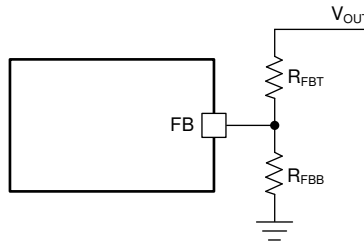

**Figure 7-1. SW Node and Inductor Current Waveforms in Continuous Conduction Mode (CCM)**
The following operating description of the LMR514x5 refers to Functional Block Diagram and to the waveforms in Figure 7-1. The LMR514x5 is a step-down synchronous buck converter with integrated high-side (HS) and low-side (LS) switches (synchronous rectifier). The LMR514x5 supplies a regulated output voltage by turning on the high-side and low-side NMOS switches with controlled duty cycle. During high-side switch ON time, the SW pin voltage swings up to approximately  $V_{IN}$ , and the inductor current,  $i_L$ , increases with linear slope  $(V_{IN} - V_{OUT}) / L$ . When the high-side switch is turned off by the control logic, the low-side switch is turned on after an anti-shoot-through dead time. Inductor current discharges through the low-side switch with a slope of  $-V_{OUT} / L$ . The control parameter of a buck converter is defined as Duty Cycle  $D = t_{ON} / T_{SW}$ , where  $t_{ON}$  is the high-side switch ON time and  $T_{SW}$  is the switching period. The converter control loop maintains a constant output voltage by adjusting the duty cycle  $D$ . In an ideal buck converter, where losses are ignored,  $D$  is proportional to the output voltage and inversely proportional to the input voltage:  $D = V_{OUT} / V_{IN}$ .